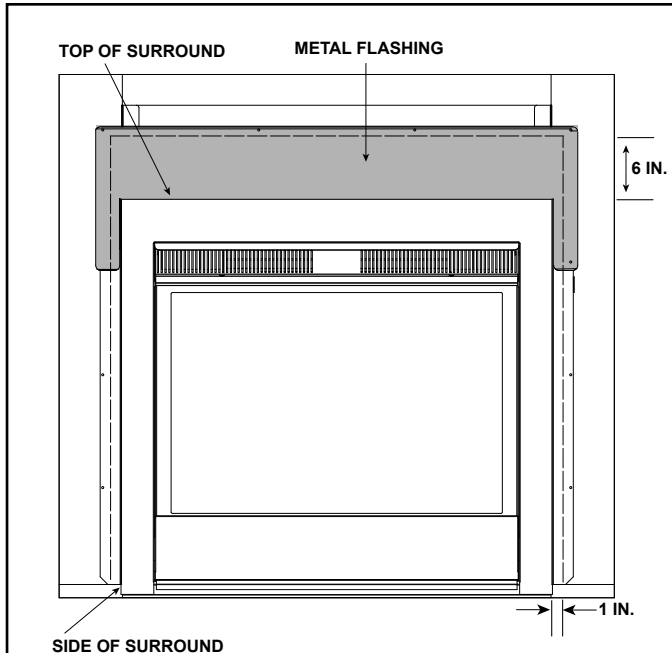

Figure 5.5. Exterior View without Non-combustible Sheathing Shown
For placement of combustible housewrap or building paper and non-combustible sheathing for the exterior wall see Figures 5.5 and 5.6.
* **NOTE:** All finishing materials on top of exterior sheathing must be non-combustible for a minimum of 10-7/8 inches above and 2-3/4 inches on both sides of the exterior face of the appliance. This non-combustible finishing material can be up to a maximum of 6 inches thick (6 inches maximum horizontal overhang) to allow for brick and stone alcoves (see Figure 5.5).